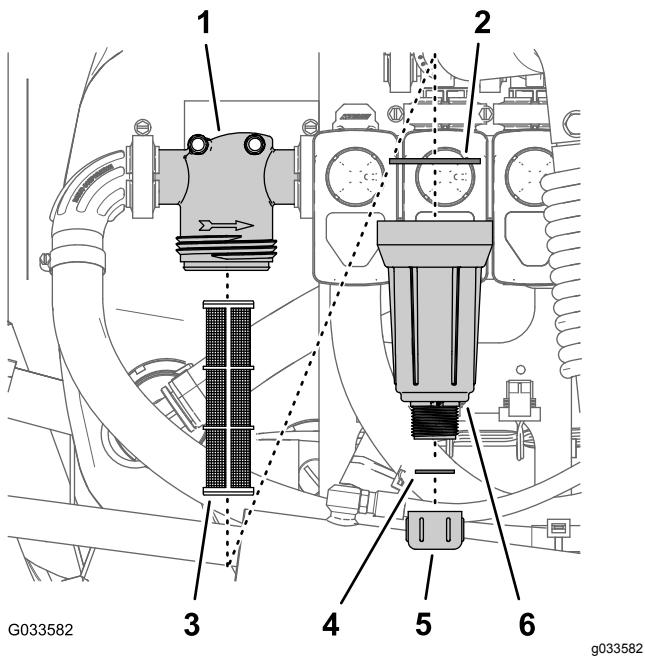

Figure 92
2. Align a drain pan under the pressure filter (Figure 92).
3. Rotate the drain cap counterclockwise and remove it from the bowl of the pressure filter (Figure 92).
4. Rotate the bowl counterclockwise and remove it filter head (Figure 92).
5. Remove the old pressure filter element (Figure 92).
6. Check the gasket for the drain plug (located inside the bowl) and the gasket for bowl (located inside the filter head) for damage and wear (Figure 92).
7. Install the new pressure filter element into the filter head (Figure 92).
8. Install the bowl onto the filter head, and tighten by hand (Figure 92).
9. Assemble the drain cap onto the fitting at the bottom of the bowl, and tighten the cap by hand (Figure 92).